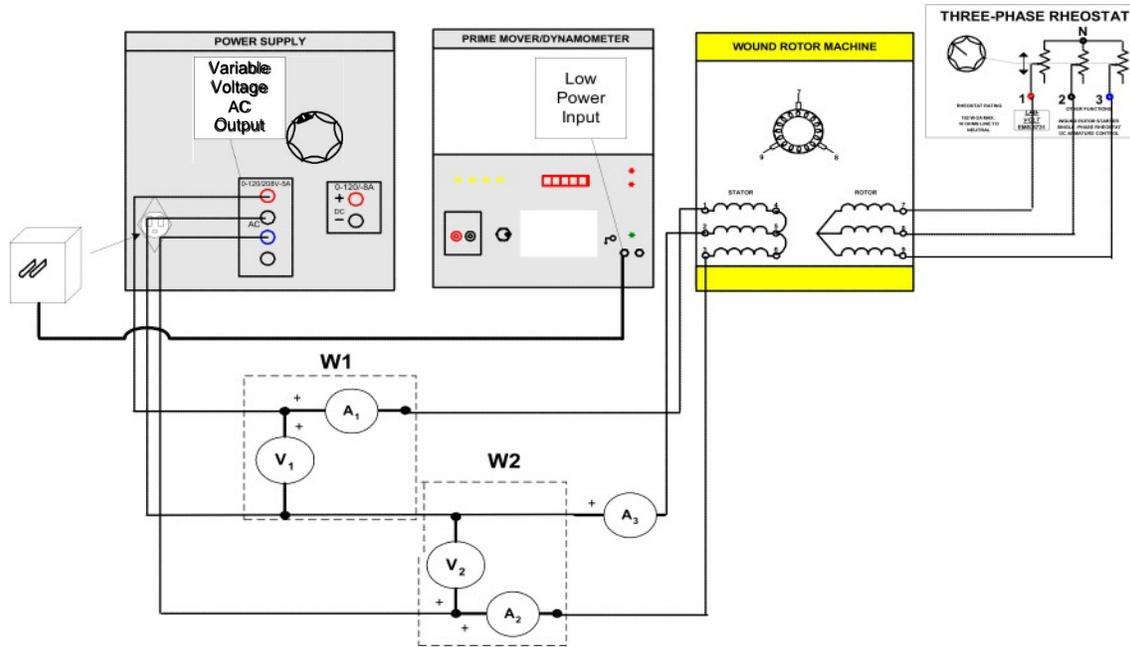

FIGURE 6.4
- Step 14: Connect the circuit shown in Figure 6.4. Do not couple the motor to the electro-dynamometer at this time!